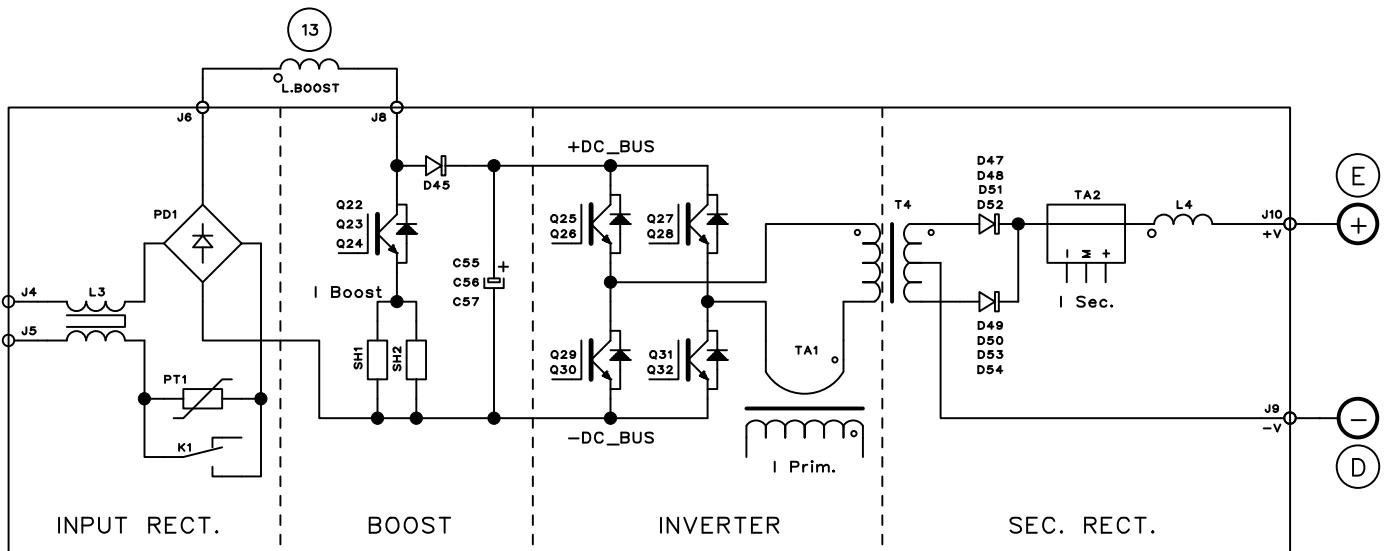

Fig. 2.3.1
More precisely in the power board (15) they can be identified (Fig. 2.3.1):
- the igtet inverter, that generates the square wave alternated voltage for the T4 transformer, installed on the power board (15);